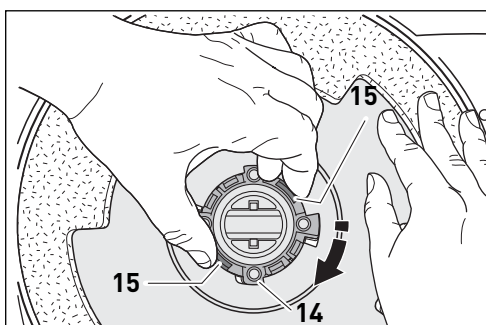

Figure 2
Press the retainer tabs (15) in using your thumb and forefinger and turn the pad clockwise until it locks into place again. See figure 2